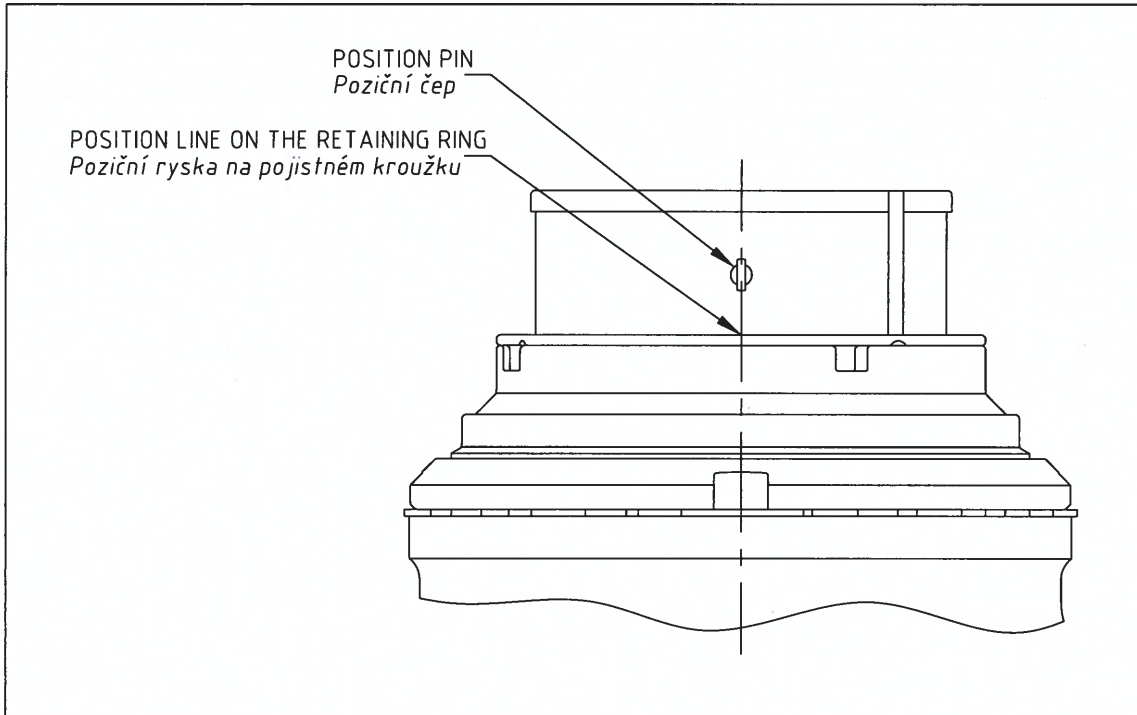

Figure 4 : Correct installation of the retaining ring
D. Install the retaining ring with the ball. Line engraved on the retaining ring must coincide with position pin installed in the blade bushing hole (figure 4).